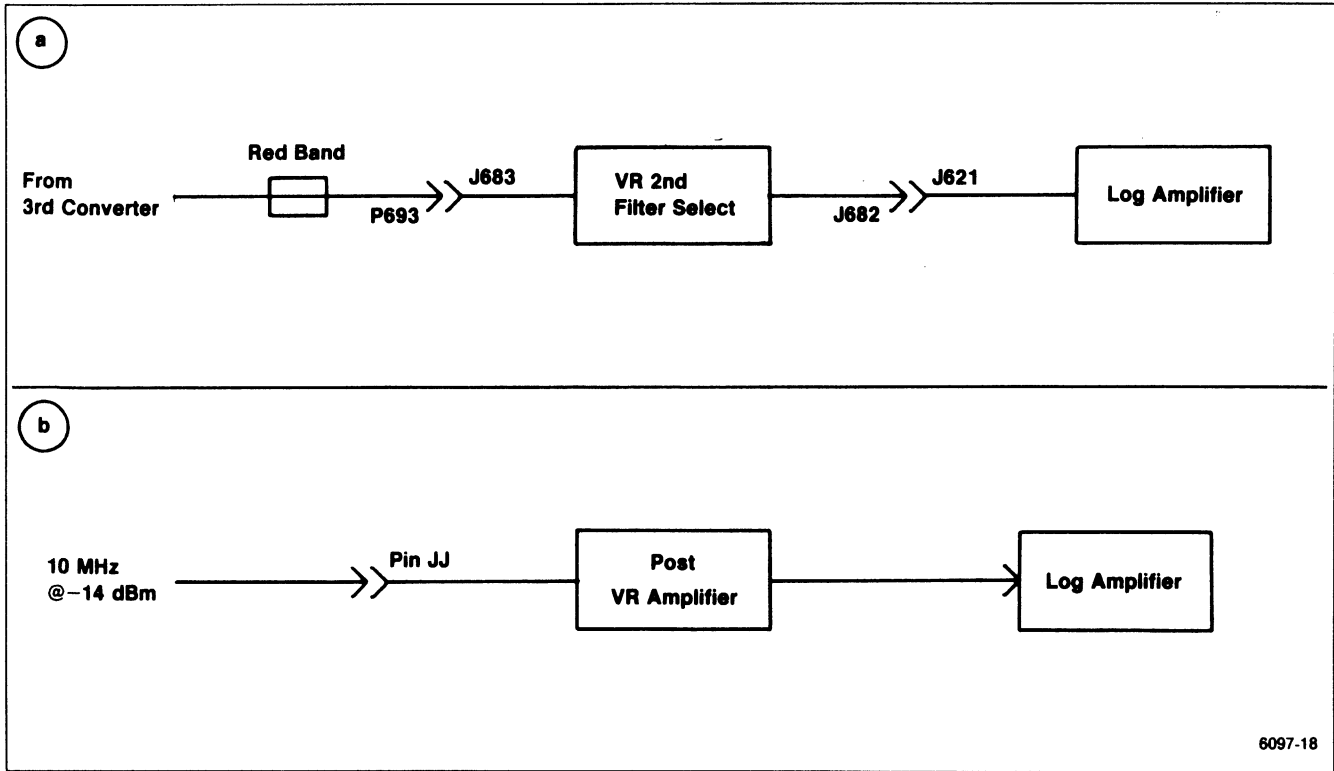
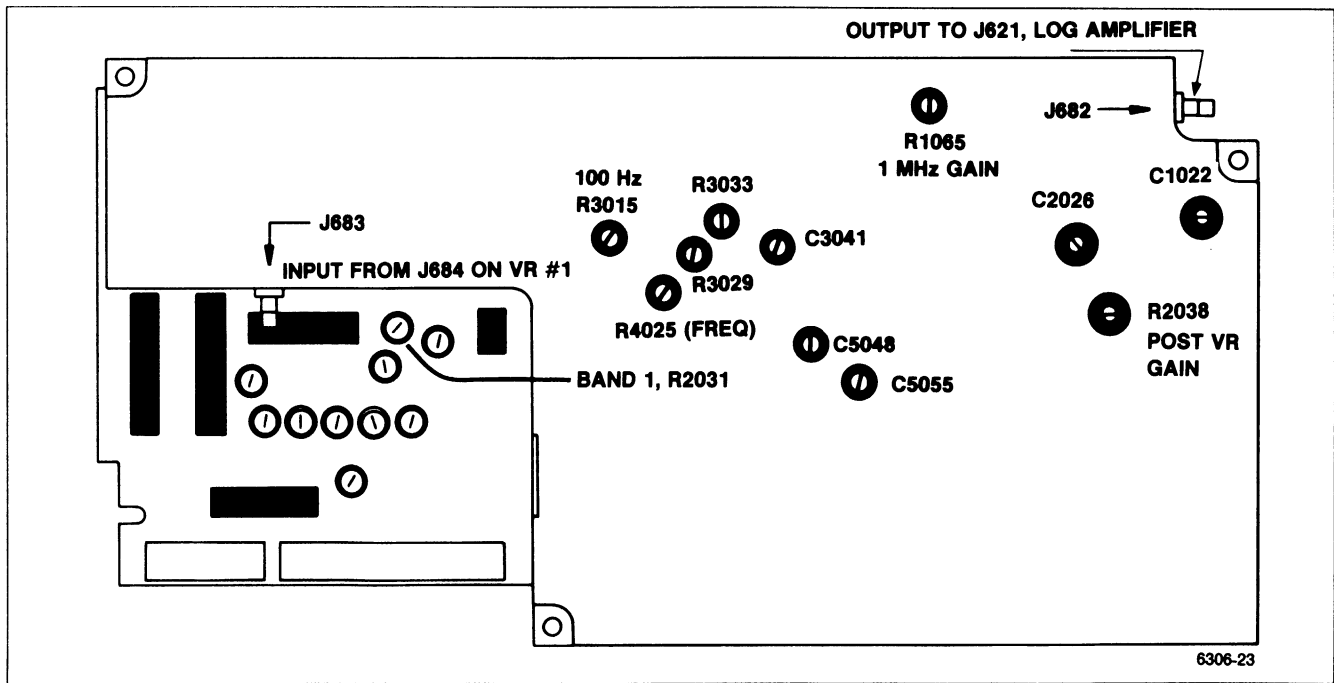
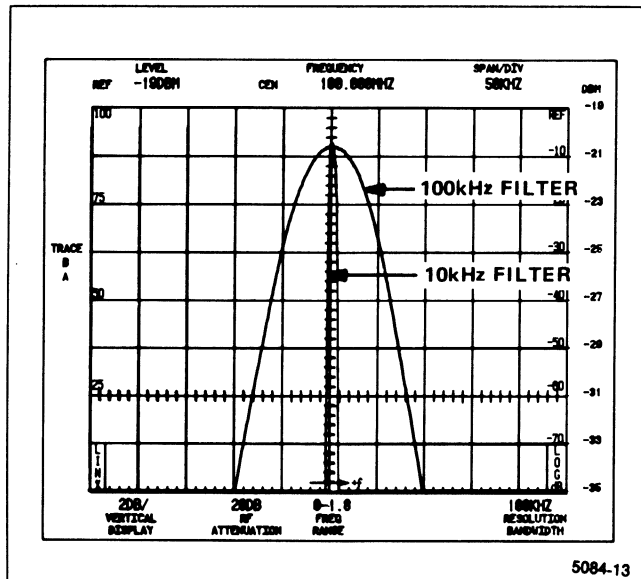
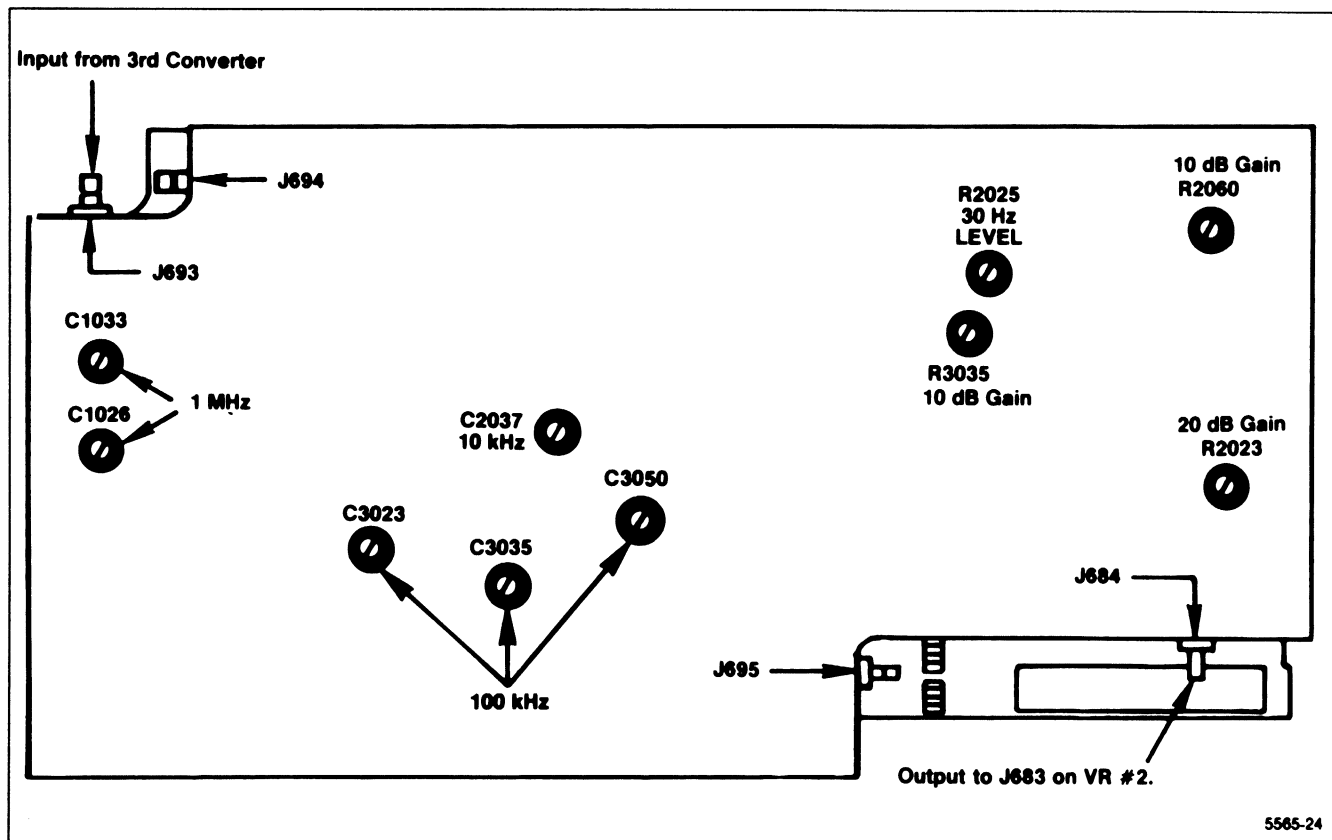

Figure 5-14. Test equipment setup for adjusting the Variable Resolution module.
Figure 5-15. Adjustments on the front of the Variable Resolution module.
Figure 5-16. 100 kHz filter response over 10 kHz filter response.
Figure 5-17. Adjustments on the rear of the Variable Resolution module.
a. Equipment setup is shown in Figure 5-14.
(1) Remove and install the Variable Resolution module on an extender.
(2) Use a Sealectro male-to-male adapter and coaxial cable to connect the 10 MHz IF output signal, from the 3rd Converter, to the input of the second section (make connection from plug removed from J693 to J683).
(3) Connect the output of the Post VR Amplifier to the input of the Log Amplifier assembly by connecting a cable from J682 on the Variable Resolution Module to J621 on the Log & Video Amplifier assembly (see Figures 5-15 and 5-14).
(4) Apply the CAL OUT signal to the RF INPUT, and set the Spectrum Analyzer controls as follows:
d. Adjust C5055, C5048, and C3041 on the VR 2nd Filter Select board (Figure 5-15) for the best 100 kHz filter response (100 kHz bandwidth, 3 dB down, that is centered about the 10 kHz reference). Refer to Figure 5-16.
g. Adjust C2026 and C1022 (Figure 5-16) for the best 1 MHz response centered about the 10 kHz filter response.
i. Adjust R4025 (Figure 5-15) for maximum signal amplitude. Deactivate SAVE A.
j. Disconnect the 10 MHz third converter IF signal from J683 and reconnect it to J693 (see Figure 5-17). Reconnect P683 to J683 (Figures 5-14 and 5-15).
m. Adjust C2037 (Figure 5-17) for the best 10 kHz response centered about the 1 kHz reference.
p. Adjust C3050, C3035, and C3023 (Figure 5-17) for the best 100 kHz response centered about the 10 kHz filter reference.
r. Adjust the 1 MHz filter response and centering with C1033 and C1026 in the VR Input board (Figure 5-17). Deactivate SAVE A.
Locations of the adjustments are shown in Figures 5-16 and 5-17.
a. Before adjusting the Variable Resolution gain and band leveling, set the correction factors to zero by pressing <SHIFT> 0, and selecting menu item 5, then item 2.
b. Test equipment setup is shown in Figure 5-14. Set the Spectrum Analyzer controls as follows:
- (1) Remove the cover for the VR 2nd Filter Select board. Disconnect the jumper connector to the input of the Post VR Amplifier (pin JJ).
- (2) Apply a 10 MHz, -14 dBm signal, from a 50Ω signal source, to pin JJ of the amplifier.
- (3) Adjust Post VR Gain R2038 on the Post VR Amplifier board for a full screen display.
- (4) Remove the signal from the input to the Post VR Amplifier and replace the jumper connector to pins JJ at the input to the Post VR Amplifier. Replace the cover for the VR 2nd Filter Select board.
d. Set the front panel AMPL CAL fully counterclockwise and set the Band 1 Gain R2031 on VR Mother board #2 (Figure 5-15) fully counterclockwise.
e. Disconnect P693 (Figure 5-17) and activate MIN NOISE. Apply a 10 MHz, -25 dBm signal, from the signal generator, through a bnc-to-Sealectro adapter to J693. Set the generator frequency to peak the signal amplitude. (Signal amplitude should be between 3.5 and 6.5 divisions. If signal amplitude is not within these limits it indicates a gain problem in the Variable Resolution module.)
f. If the signal amplitude is over 5 divisions, adjust the Post VR Gain R2038 (Figure 5-15) for a 5 division signal amplitude.
h. Switch MIN NOISE off, decrease the generator output to  $-35$  dBm, leave the REF LEVEL at  $-20$  dBm, and adjust the 10 dB Gain R3035, on the 10 dB Gain board (Figure 5-17) so the signal amplitude is 7 divisions.
i. Change the generator output to  $-45$  dBm, the REF LEVEL to  $-40$  dBm, and adjust the 20 dB Gain R2023 on the 20 dB Gain Step board (Figure 5-17) for a 7 division signal amplitude.
j. Change the generator output to  $-65$  dBm, the REF LEVEL to  $-60$  dBm, and adjust the 10 dB Gain R2060 on the 20 dB Gain Step board (Figure 5-17) for a 7 division signal amplitude.